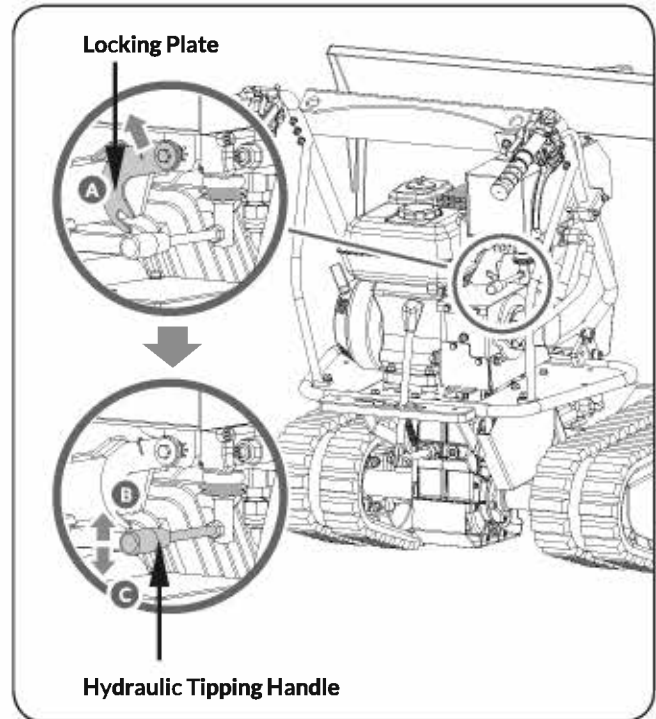

Figure 3
- » Using your left hand, pull the locking plate (see **Figure 3**, Ill. A) up to release the tipping handle, and hold in position.